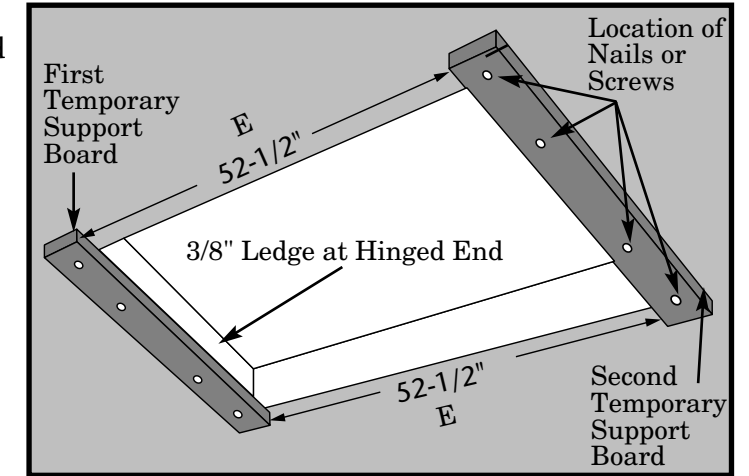

Figure 22 View From Below
- STEP 1.** Using four nails, attach a 1" x 4" x 36" board (temporary support board) at the end of the rough opening where the hinged end of the access ladder will be. This temporary support board must form a 3/8" ledge across the rough opening (Figure 22) on the next page.
- STEP 2.** Using four nails, attach the second temporary support board to the other end of the rough opening so that the temporary support boards are “E” Inches (see Table 4) apart (Figure 22).
Before Proceeding: You must have temporary support boards at both ends of the frame as shown in Figure 22.
- STEP 5.** After predrilling with 1/8" drill bit, nail the hinged end of the frame to the header by driving two 16d nails through the hole in each metal bracket on the headboard (location A at Figure 22).